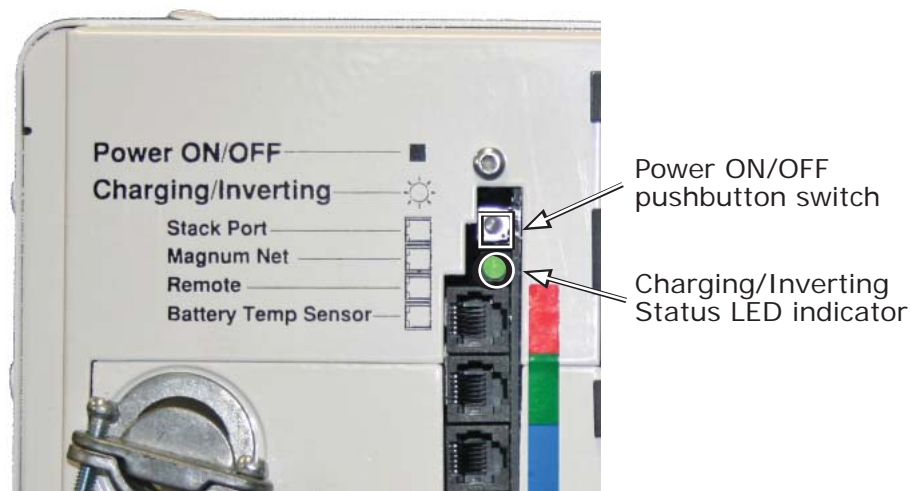

Figure 3-5, Power Switch and Status Indicator
ON/OFF Switch – The inverter can be turned on and off by lightly pressing and releasing the Power ON/OFF switch on the front of the inverter (refer to Figure 3-5). When the inverter is first connected to the batteries, or when its automatic protection circuit has turned the inverter off, the ON/OFF switch will need to be pressed to start the unit (or reset per Section 4.3). Once the inverter has been turned on, pressing the Power ON/OFF switch alternately turns the inverter on and off.
Status LED Indicator – The status indicator is a green LED (Light Emitting Diode) that provides information on the operational mode of the inverter. Watch this indicator (refer to Figure 3-5) for at least 10 seconds to determine the inverter's operational condition from the information below:
Press and hold the Power ON/OFF pushbutton for approximately fifteen (15) seconds until the Charging/Inverting Status LED (see Figure 3-5) comes on and flashes rapidly; once the rapid flashing has begun, release the Power ON/OFF pushbutton. The Status LED will go off after the pushbutton is released.